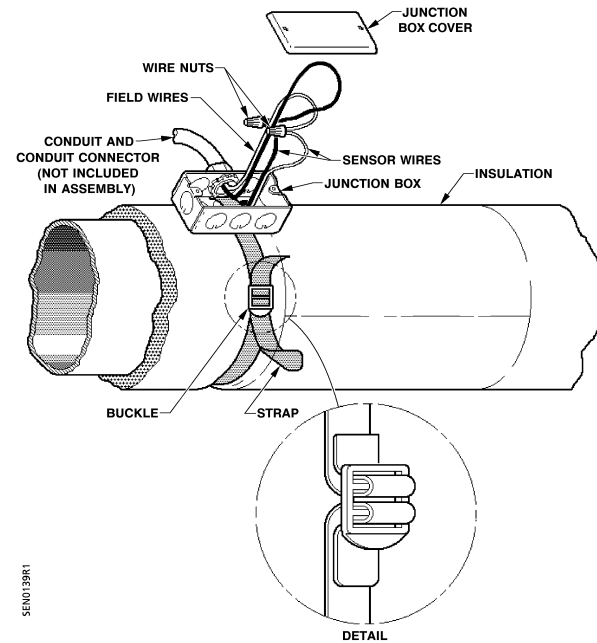

Figure 3. Attaching the Junction Box and Connecting the Sensor Wires.
2. Thread the strap through the junction box and attach the junction box to the pipe. See Figure 3.
4. Using two of the wire nuts provided, connect the sensor wires to the field wires. See Figure 3.